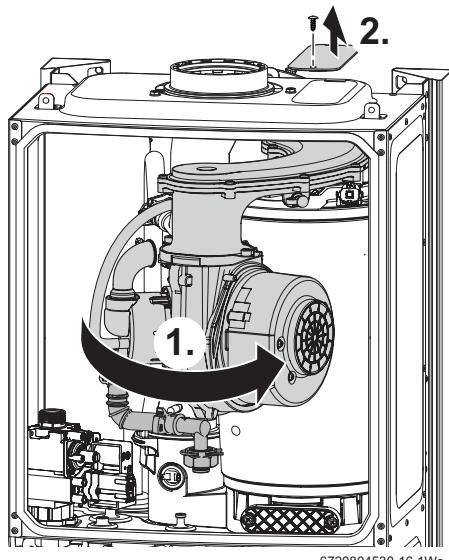

Fig. 60 Rotate air/gas manifold
1. Refer to figure 60 and rotate fan and air/gas manifold assembly around the top of the heat exchanger until it stops at the lug.
- ▶ Refer to figure 64 and access the heat exchanger flue ways by inserting the cleaning brush (7 716 192 312) through the top access hole in the casing, removal of panel shown in figure 60.
- ▶ Re-assemble ensuring that the lower baffle (2) and the top baffle (1) are refitted correctly.